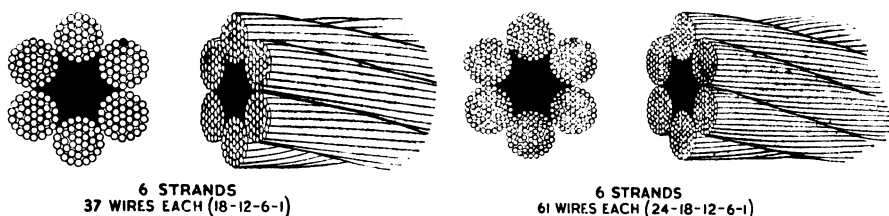

Fig. 79.—Extra special flexible steel wire rope for hoists and special purposes
(3) *Extra Special Flexible Steel Wire Rope* (E.S.F.S.W.R.). (Fig. 79). This is used where strength and flexibility are both essential. The strands are constructed of large numbers of small gauge wires which are made of higher quality steel than are those used for the other two groups. (The term “extra special” refers more to the quality of the steel than to the flexibility of the rope.)